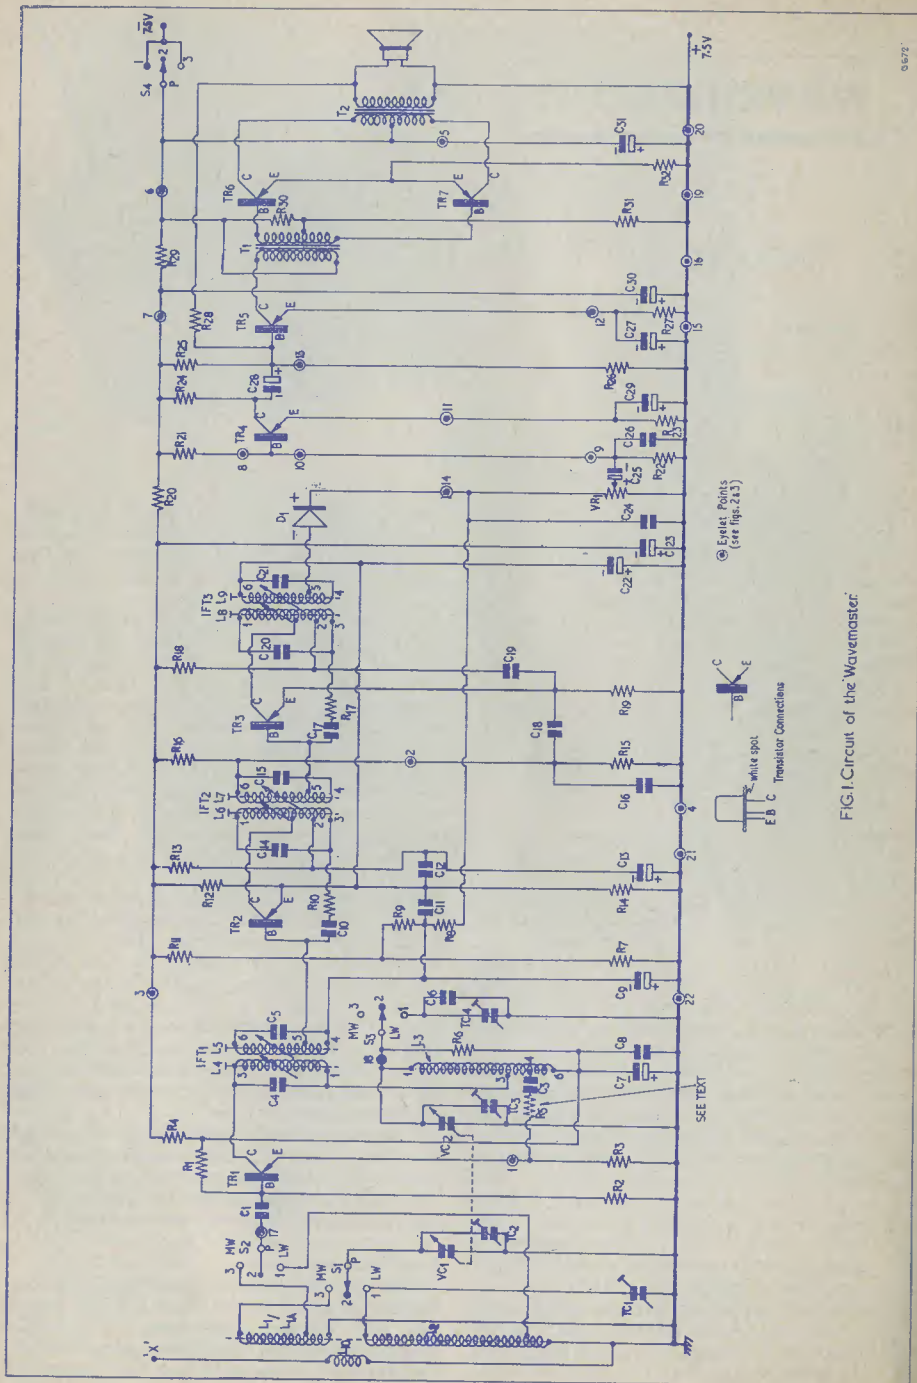
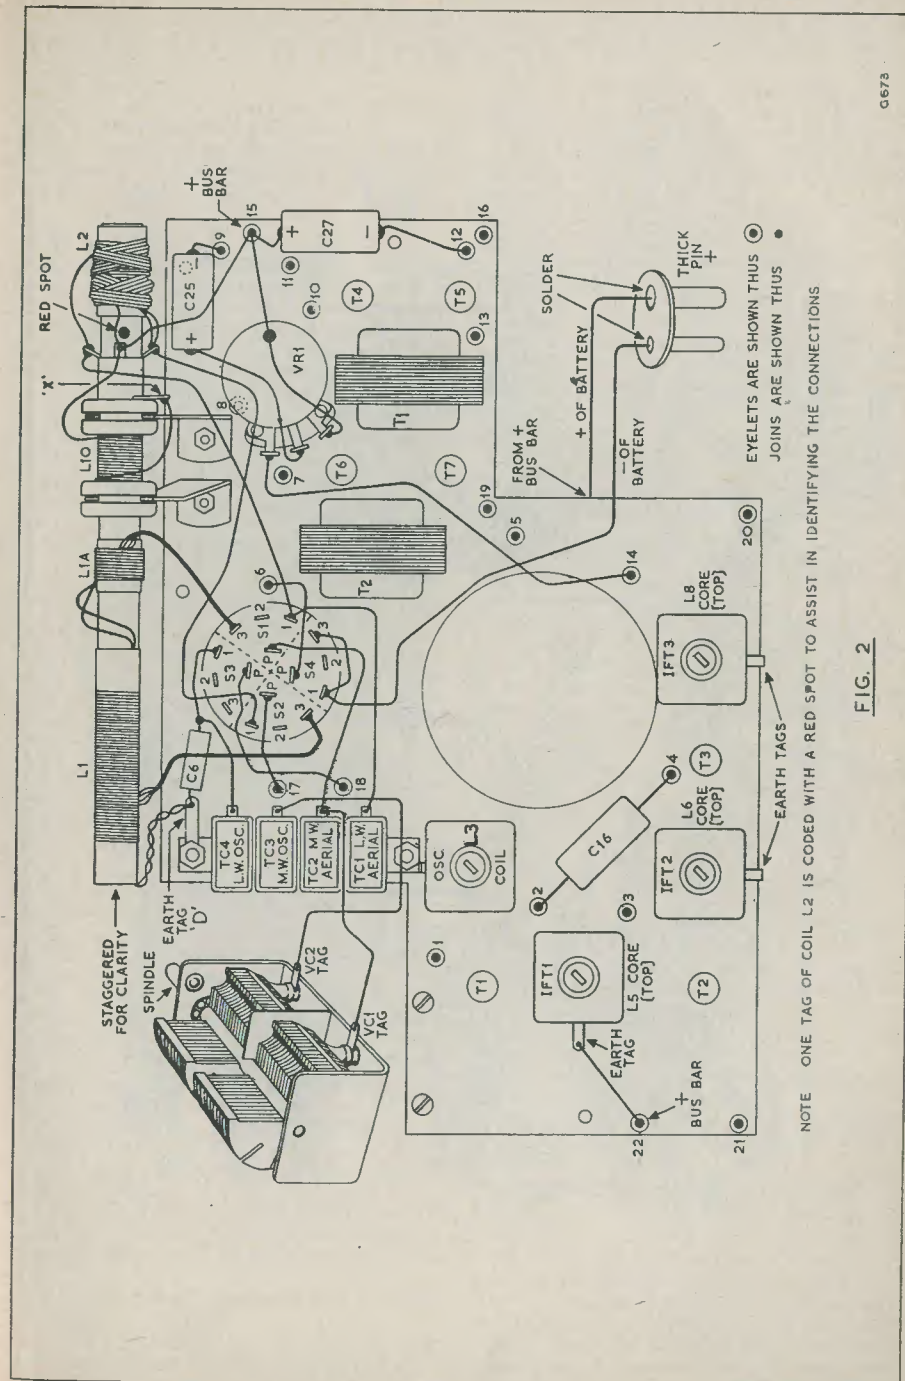
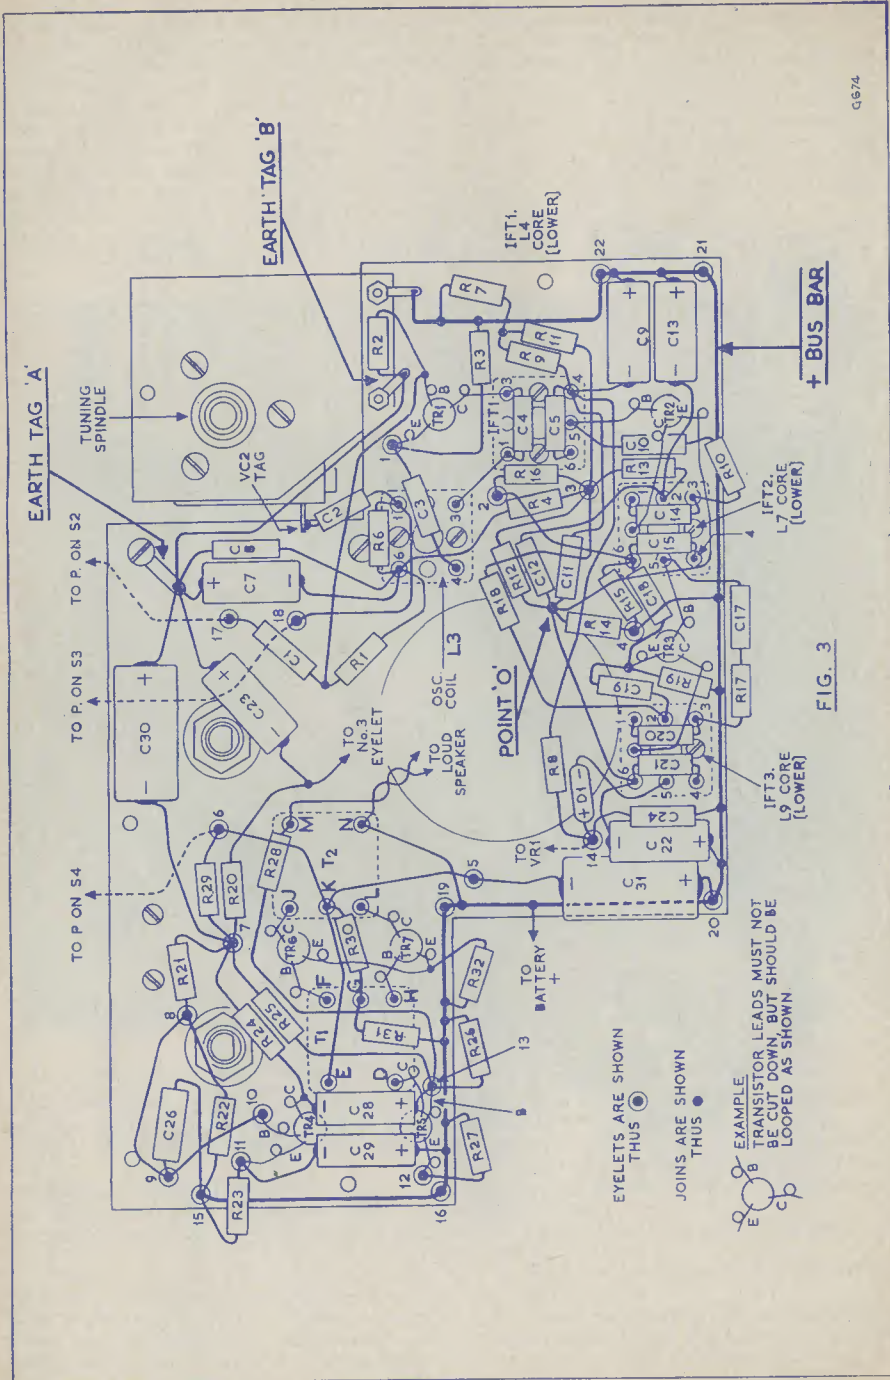

FIG. 1. Circuit of the Wavemaster.
FIG. 2
FIG. 3
This is shown in Fig. 1 from which it will be seen that it is a seven transistor design incorporating a ferrite rod aerial L_1 , L_{1A} , L_2 , together with an alternative car aerial input "X". TR_1 , an XA102, performs the function of a frequency changer, TR_2 and TR_3 , both XA101 types, act as the i.f. amplifiers, while
Transistor connections are given in the inset to Fig. 1. Particular note should be taken of the numbered eyelet points also shown, these being frequently referred to in the constructional details which follow.
The resistor R_5 , shown in dotted line in Fig. 1, is not supplied with the components, it being a variable factor which can only be found by experiment. R_5 may be any value between 22 and 150 Ω , it being included when the oscillator circuit shows a tendency towards "squegging" and is only necessary in rare circumstances. Referring to Fig. 3,
chassis as shown in Fig. 2, with the spindle on the underside (see Fig. 3).
2. Mount the 4 pole 3 way switch (wave-change combined on/off) shown in Fig. 2 as S_1, S_2, S_3, S_4 . Arrange the tags exactly as shown in Fig. 2 and securely tighten the nut.
3. Next, the volume control VR_1 should be fitted into position. Arrange exactly as shown in Fig. 2. Fit the nut and tighten securely.
4. With reference to Fig. 2, the following connections should now be made. Solder a
With the following connections now to be made, frequent reference should be made to Fig. 3. A great deal of work is to be carried out on this side of the printed circuit board and extra care is therefore necessary.
The remainder of the circuit may be varied considerably, but in this instance we will only consider its use as an automatic switch for Christmas tree lights as in Fig. 3, or as an illuminated sign spelling out ME, RR, Y, XM, AS. A suitable circuit is shown in Fig. 2.
The table lists the requirements of each relay. The limiting factor to coil resistance is the current drain from the power supply. Apart from relay P, coil resistances in the table are minimum figures. Coil resistances in Fig. 2 are typical.
A further contact on Q relay may be used to light a lamp at the top of the tree on each operation. See Fig. 3.